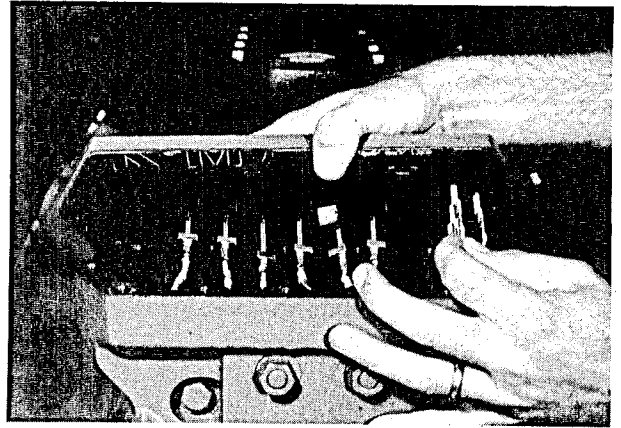

Figure 39
5. Connect the terminal spade connectors. Attach the color coded lead to the common or "C" terminal connection. The other three leads attach to any of the other three terminal connectors S1, S2 and S3 (Figure 39).